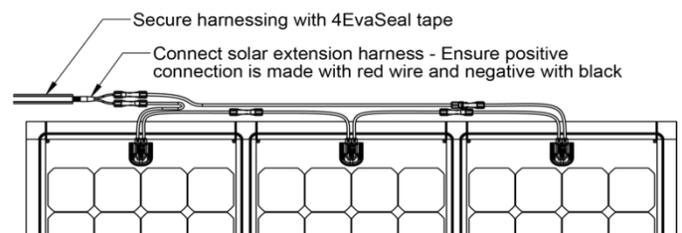

FIGURE 4
7. Connect the solar extension harness to the unused positive and negative connectors on the panel and 3ft. MC4 extension harness. Secure all harnessing to roof using 4EvaSeal Tape, high-bond adhesive, for example Sikaflex 221, or fasteners. (Figure 4)